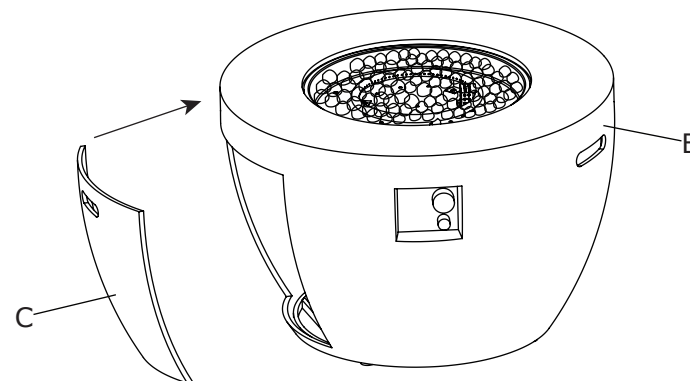

Figure 4
4. Attach the door (C) with fire table (B) tenderly (See Figure 4).